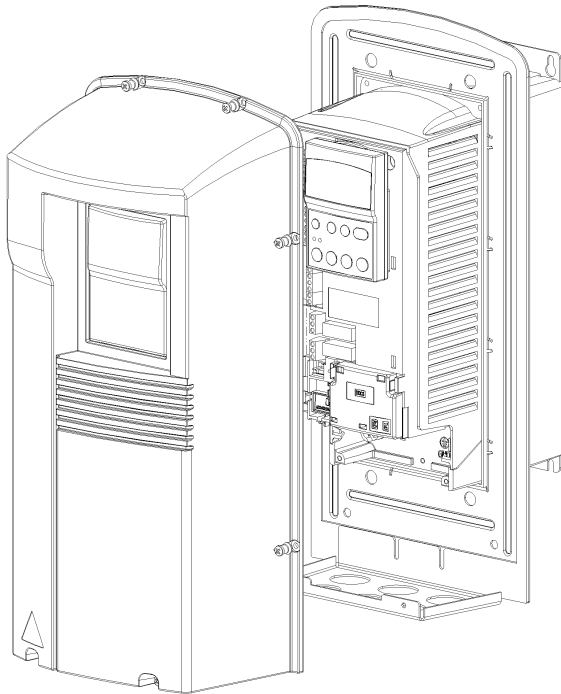

FIG. 10 - Opening type IP 54/NEMA type 12 & 4 drives.
- 1 - Remove the front cover, see *Figure 10*.